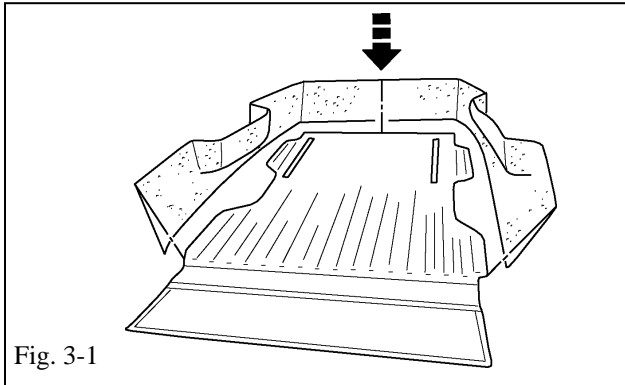

Fig. 3-1
- (a) Align the sides of the BedRug as shown. **NOTE: BEDRUG FLOOR IS FACE DOWN FOR THIS OPERATION.** (Fig 3-1)